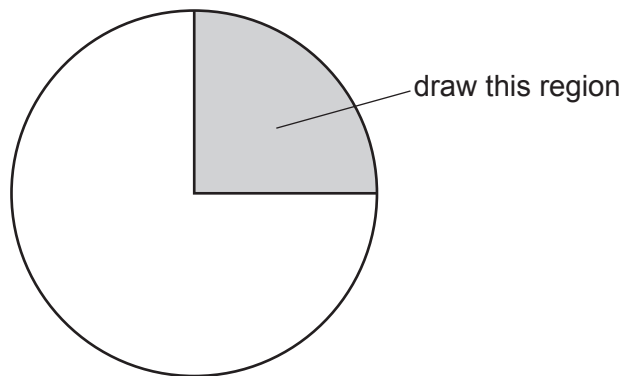

Fig. 2.1
- (a) (i) Draw a large plan diagram of the region of the root on **K1** indicated by the shaded region in Fig. 2.1. Use a sharp pencil.